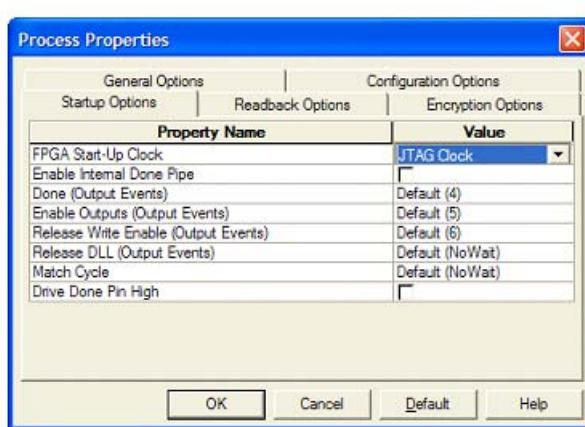

Figure 115: Setting the JTAG Startup Option
7. Right click on the process for 'Generate Programming File' and select 'Properties'. This brings up the options for creating the bitstream for the FPGA itself. Click on the Startup tab and set the startup clock to 'JTAG' as shown in Figure 115 on page 196.